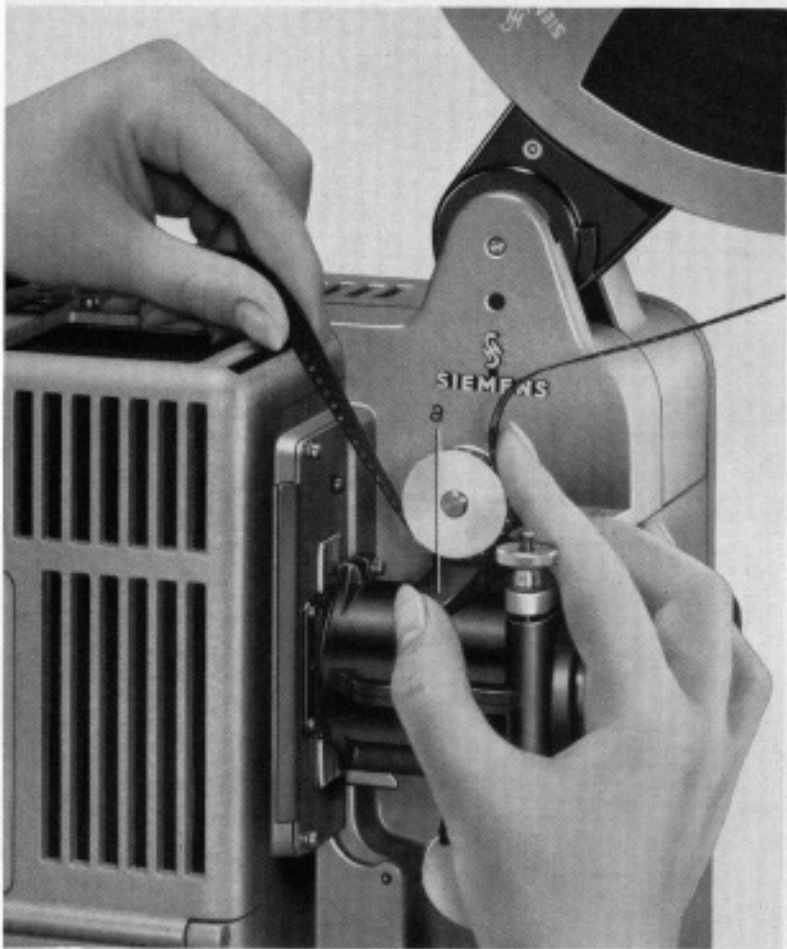

Fig. 17
4. Pull down about 5 ft of film from supply reel. Close pressure guide a (Fig. 17) by using index finger of right hand and placing thumb and index finger of left hand under upper sprocket.